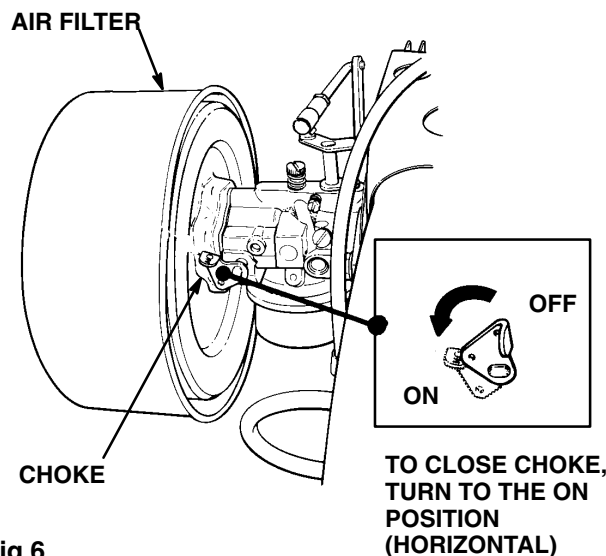

Fig 6
8. Close the choke by turning the lever to the ON position (horizontal). See Fig 6.